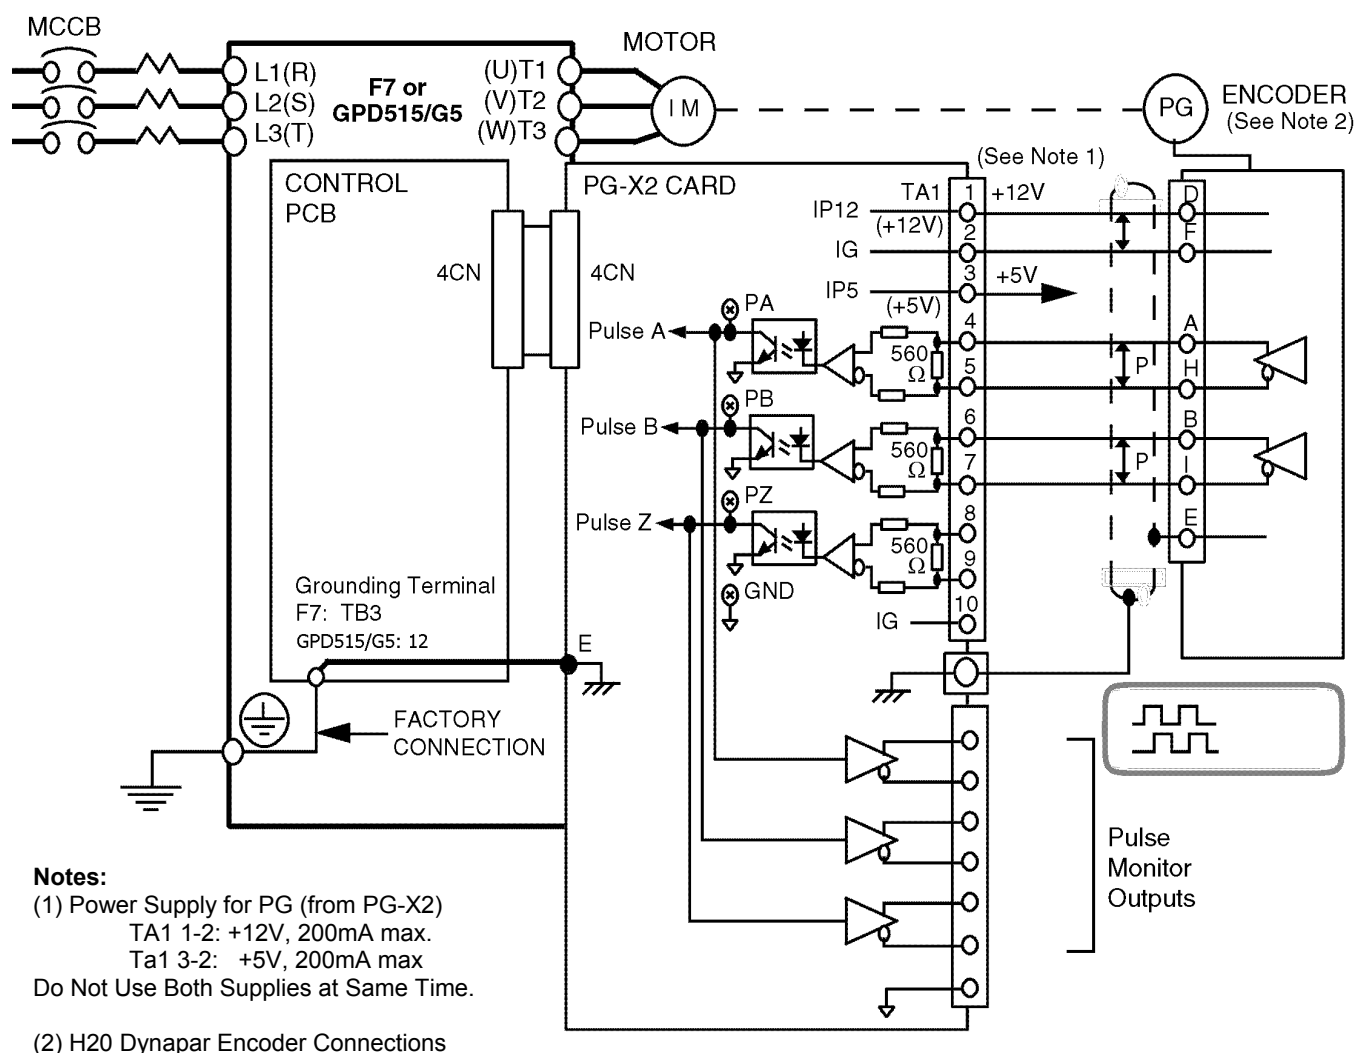

Figure 4. Typical PG-X2 Interconnection Diagram
8. **Wiring.** Refer to Figure 4 and Tables 1 & 2.